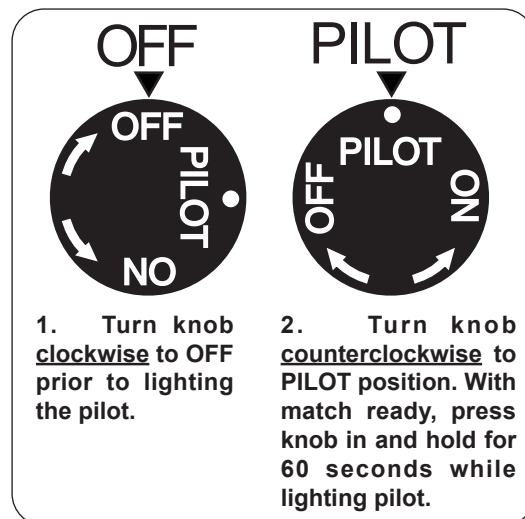

Fig. 21-1 Control knob detail (OFF, PILOT)
1. Locate the valve on the side of the unit. Push in the gas control knob slightly and turn clockwise to **OFF** (Fig. 21-1).
2. Turn the control knob counterclockwise to **PILOT** (Fig. 21-1). Push the control knob **firmly and fully** in and hold. Hold a long fireplace match or lighter near the thermocouple to light the pilot. Continue to hold the control knob in for approximately 60 seconds after the pilot is lit, then release the knob. The pilot will remain lit.